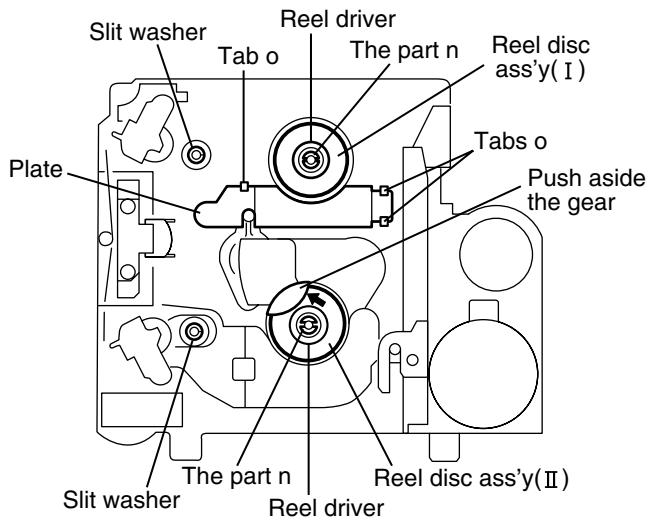

Fig.12
(See Fig.12 to 14)
■ Removing the reel disc ass'y(Ⅱ) (See Fig.12 to 15)